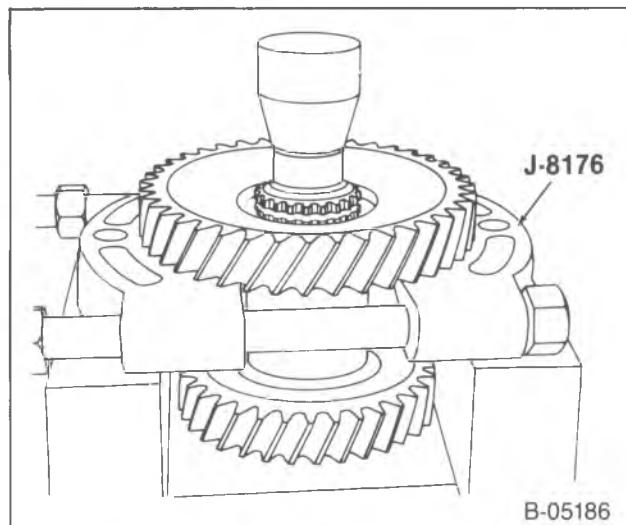

Figure 44—Removing the Driven Gear
- Support the gear and press the countergear through (figure 44).